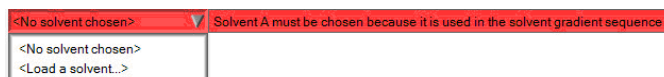

Figure 3-3: Solvent Selection Menu
1. Press *<No solvent chosen>* to present the message and drop down menu shown in Figure 3-3.